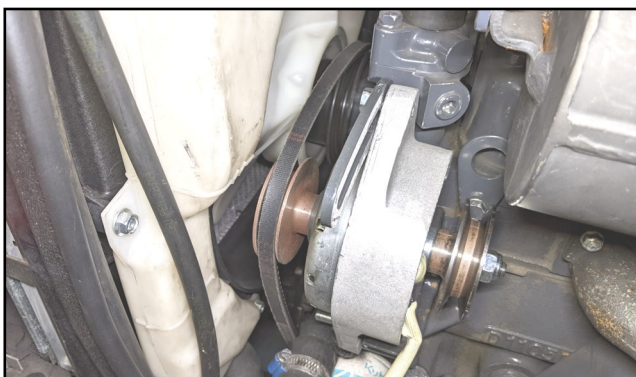

Fig. 2.4 (Install belt and set the tension)
- 2.4 Install the belt over the new dynamo pulley. Ensure the belt is properly running in the V groove on the crank pulley, water pump pulley, and new dynamo pulley. See fig. 2.4.